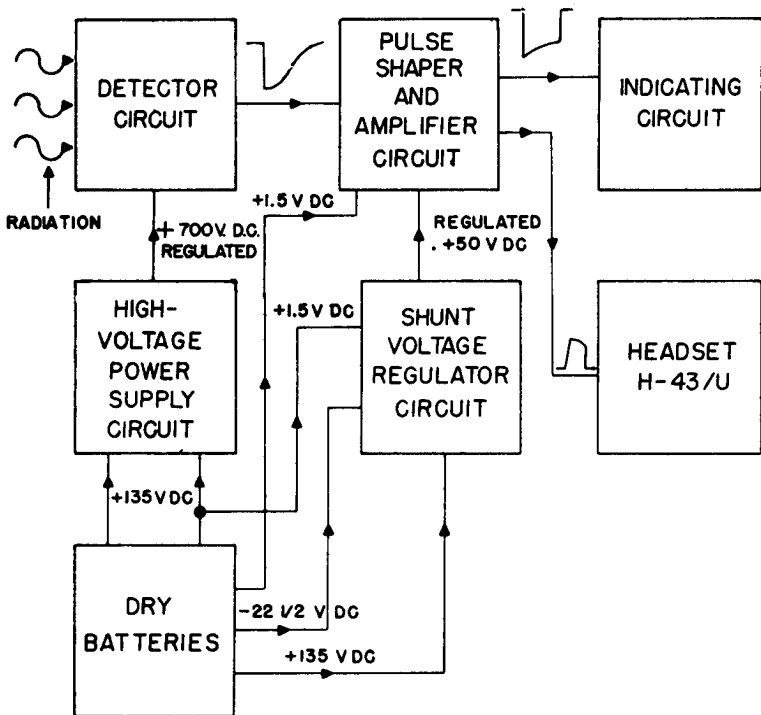

Figure 2-2. Radiac Set AN/PDR-27A, Block Diagram
2. GENERAL CIRCUIT DESCRIPTION. (See figure 2-2.)